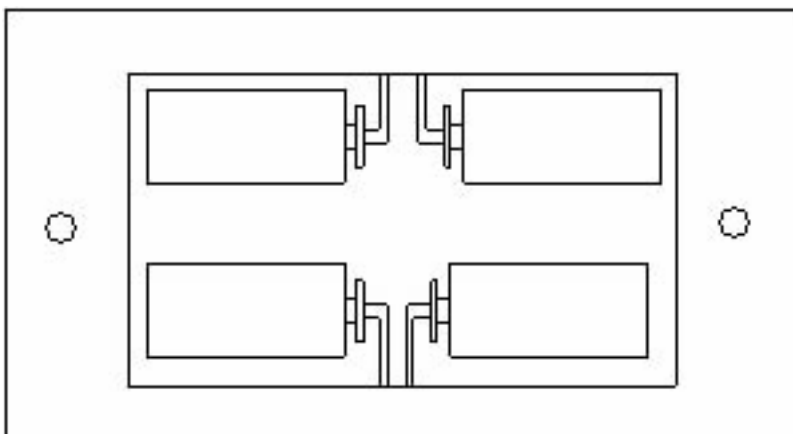

Figure 3-1. *Battery Installation (For 190AC and 190F only three 9-volt batteries are installed.)*
3. Replace the batteries one at a time, observing proper polarity (refer to Figure 3-1)